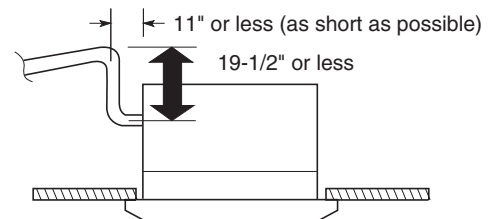

Fig. 1-54
- If it is necessary to increase the height of the drain pipe, the section directly after the connection port can be raised a maximum of 19-1/2". Do not raise it any higher than 19-1/2", as this could result in water leaks. (Fig. 1-54)